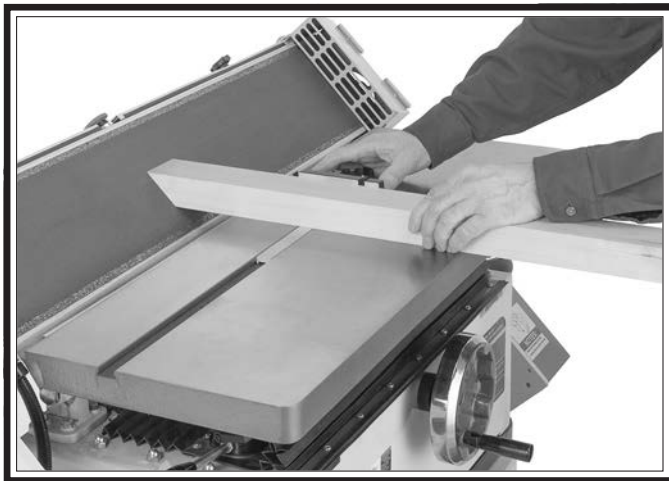

Figure 50. Typical bevel sanding operation.
3. Support workpiece against miter gauge or backstop and slowly feed workpiece into moving belt with light, even pressure. Maintain control of workpiece, as shown in **Figure 50**. **DO NOT** force workpiece against belt.